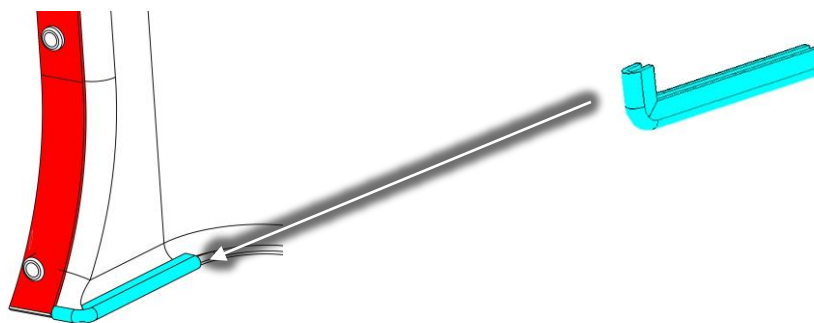

Figure 8 – Capacitor Cover Sealing Foam Lower Right Completion
- When the foam is completely installed, it should be formed like the foam illustrated in Figure 8 (Capacitor Cover Sealing Foam Lower Right Completion).